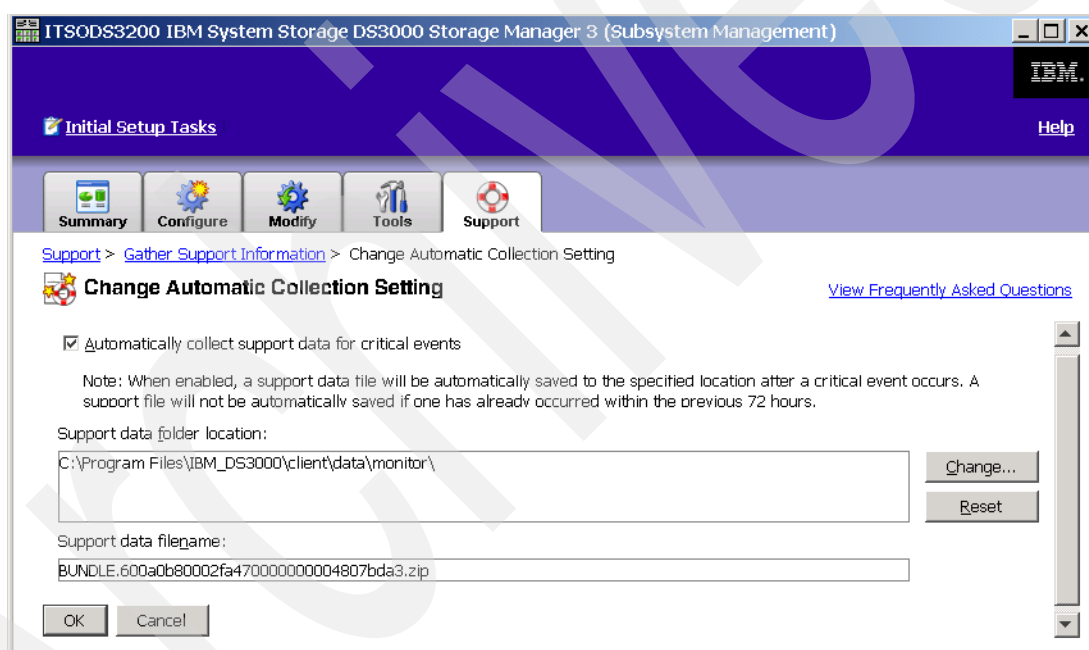

Figure 14-7 Change Automatic Collection Setting
2. Click the **Automatically collects support data for critical events** check box in the new window (Figure 14-7) to enable the automatic data collection and, optionally, specify the destination folder for collected data.